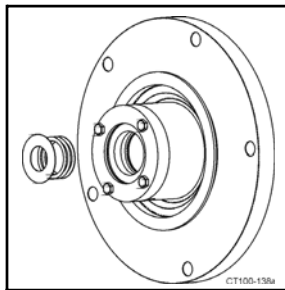

Figure 19 - Remove Screws from Housing
1. Remove cap screws from seal housing. (Figure 19, item A).